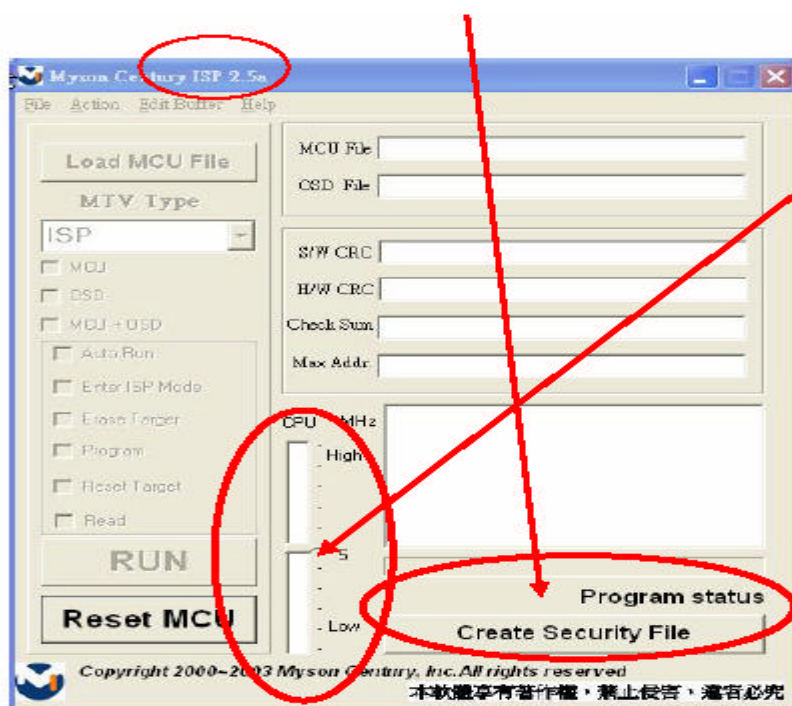

Fig 3.4
2.4 Press “ Create Security File ” button to key in **security code**. Adjusting bar to decrease **speed of IIC bus**, see Fig 3.4.